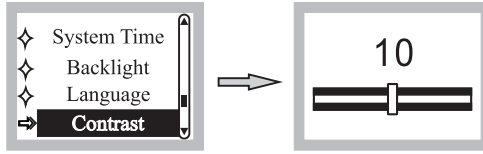

Fig. 22
(6) Changing LCD Contrast, Fig. 22.